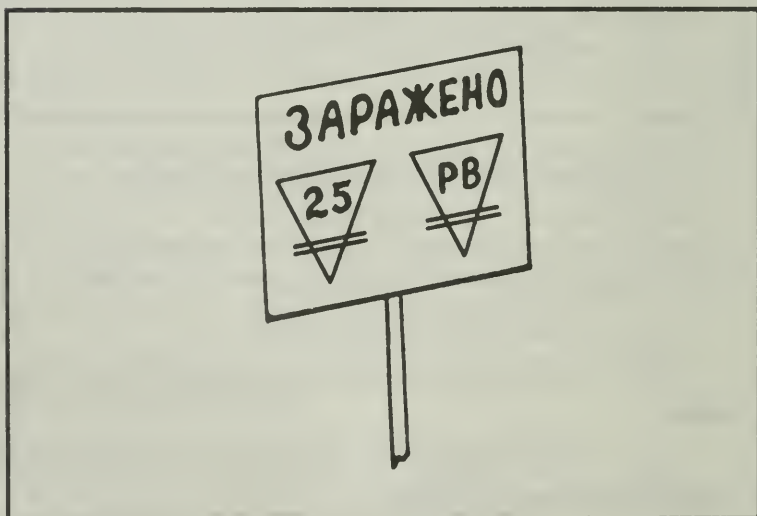

Figure 283. Warsaw Pact radiological contamination marker.
b. If you see a Warsaw Pact radiological contamination marker (Figure 283), notify your supervisor.
- (1) Avoid the area if possible.
- (2) Request crossing instructions if you must cross.
- (3) Cross quickly by the shortest route. Make maximum use of shielding.